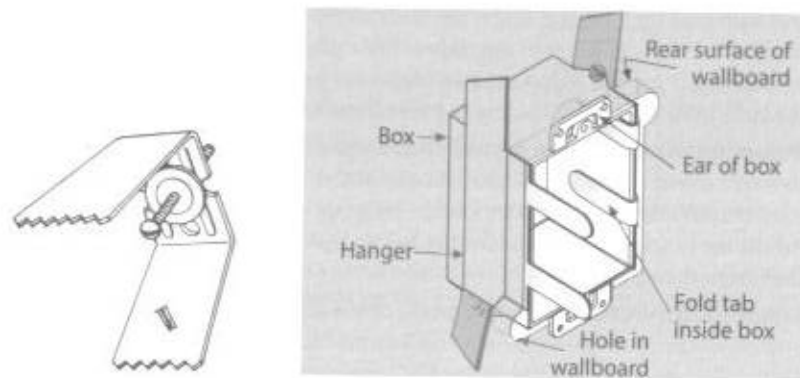

Fig. 13-7 Another way of supporting switch boxes.
- Use an ordinary box plus the U-shaped clamp of Fig. 13-7. Install the U-clamp with the screw holding it in place unscrewed about as far as it will go. When you slip the box into its opening, the ends of the clamp will expand outward. Tighten the screw holding the clamp to anchor the box ears firmly against the wall.